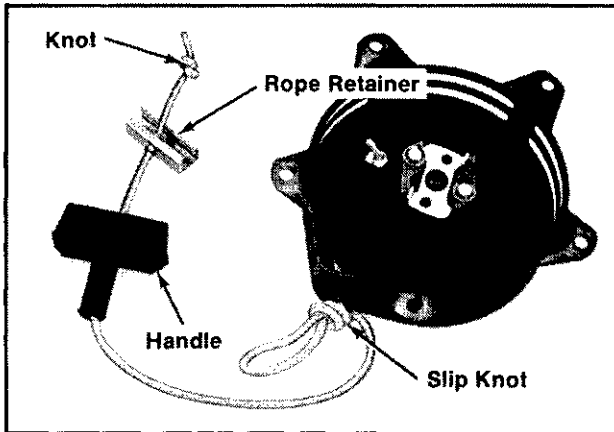

Figure 7-4. Removing Handle.
2. Pull the rope out approx. 12" and tie a temporary (slip) knot in it to keep it from retracting into starter. Refer to Figure 7-4.
11. Slip the handle and rope retainer onto rope. Tie a single knot at the end of rope and install rope retainer into handle. Refer to Figure 7-4.